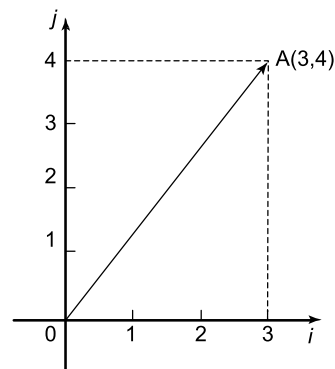

Figure 5.3
- (vi) $xi + jy$, where i and j are axes at right-angles to each other; for example, $3i + 4j$ means 3 units in the i direction and 4 units in the j direction, as shown in Figure 5.3.
- (vii) a column matrix $\begin{pmatrix} a \\ b \end{pmatrix}$; for example, the vector \mathbf{OA} shown in Figure 5.3 could be represented by $\begin{pmatrix} 3 \\ 4 \end{pmatrix}$
Thus, in Figure 5.3,